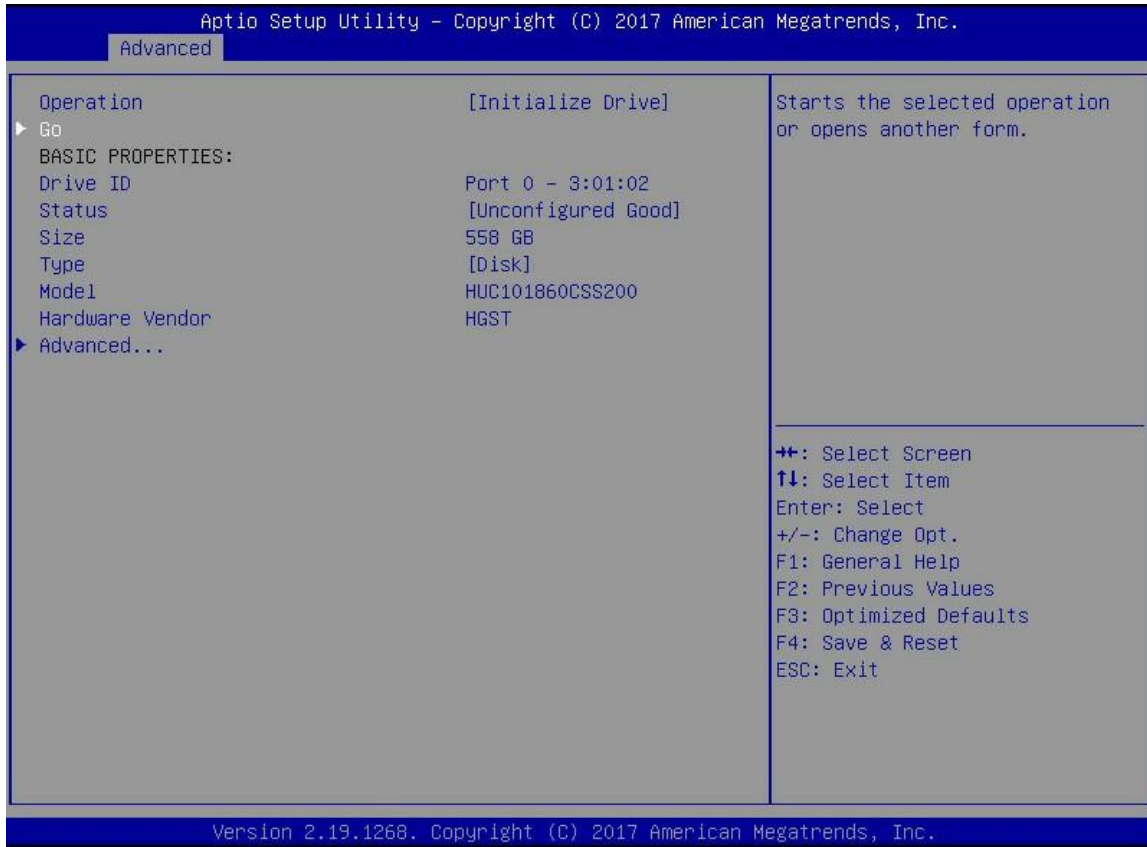

Figure 6-50
d) Enter the interface shown in Figure 6-50, select go and press enter.